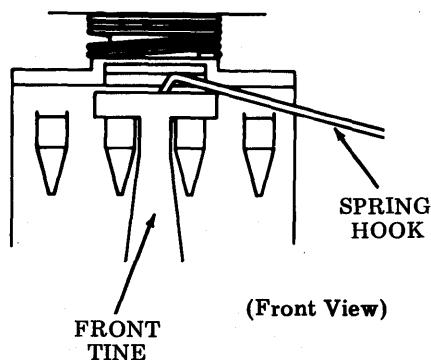

Fig. 9—Front Tine Disengagement
(3) Continue applying upward pressure to the RETURN key and disengage the front tine from housing using a spring hook. Remove key with housing from channel (Fig. 9).